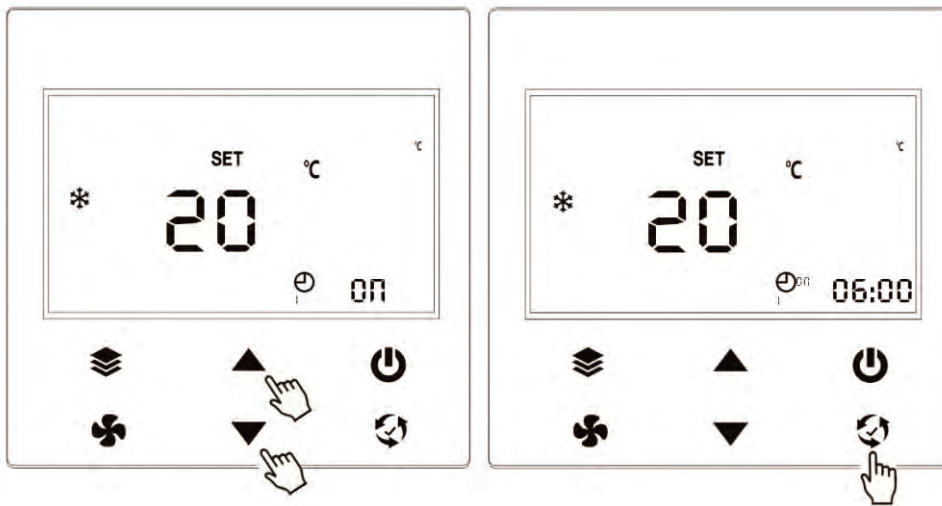
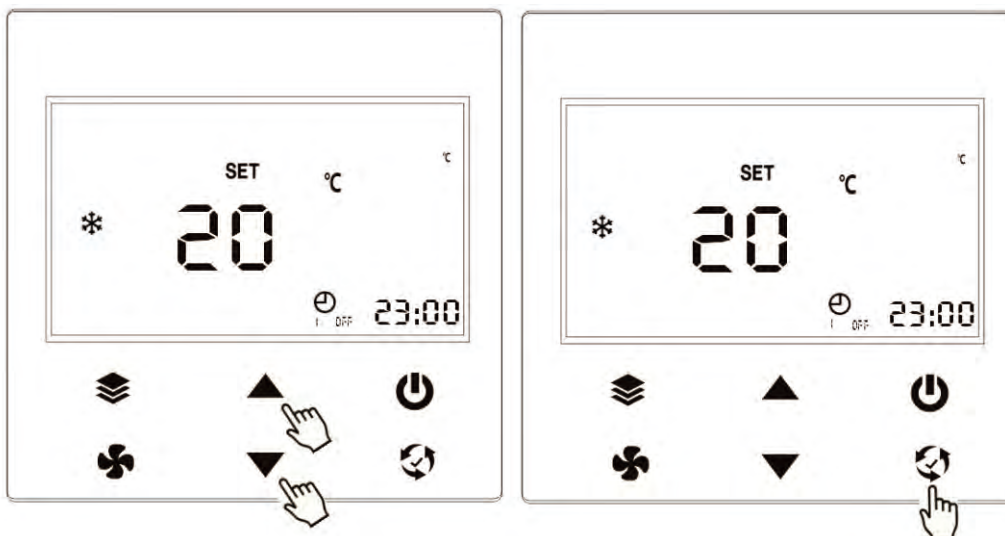

Figure 9. Set time period 1 boot timing time
Figure 10. Set time period 1 shutdown timing time
3. After selecting the timing to enable, that is, after the timing is displayed **ON** at the time, short press the button  to enter the timing power-on time setting, as shown in the rightmost picture in Figure 10. At this time, the time is blinking.
4. Set the power-on time by short-pressing or long-pressing for 5 seconds  or  button. For example, set the power on at 6:00. When the time is adjusted to 6:00, press the button  to indicate that the time period timing power-on time setting is completed (such as Figure 9). At this time, the interface will jump to the time period 1 timer shutdown time setting, the shutdown timer time flashes, as shown in the leftmost side of Figure 10.